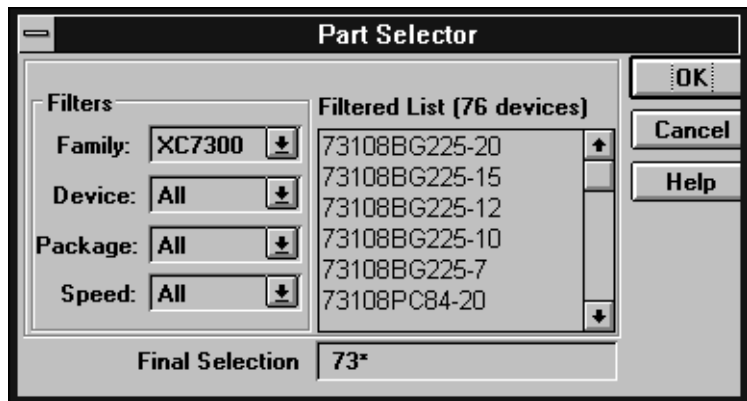

Figure 2-8 Part Selector
6. From the Translate Options dialog window you can choose a design version number or accept the default version number. You can also specify whether the software is to read the device information contained in your source file or use the part you have selected. To select a Part click Select Part and you see the Part Selector window from which you can specify a target device as shown in Figure 2-8. Click OK when done.